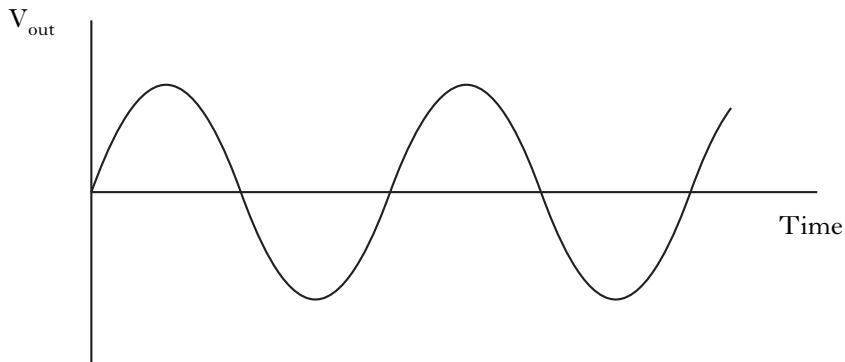

Figure Q5
5. An electronics engineer investigating an oscillator circuit discovers that the output has the waveform shown in Figure Q5.